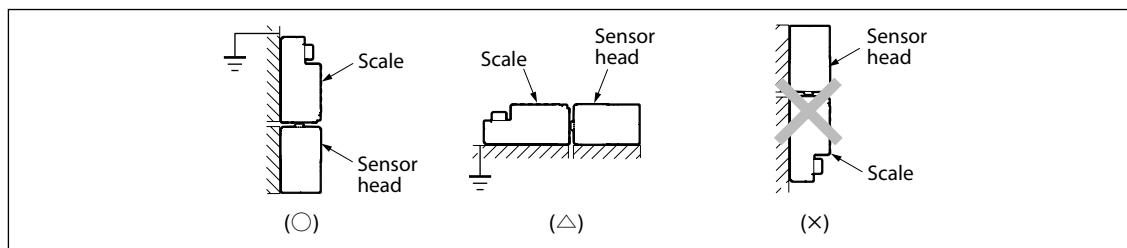

Fig. 3-1
- The sensor head will be damaged if the sensor head is moved outside the effective length (L) after installation. The sensor head must always be moved within the effective length.
- If the upper side is not available, set it to face horizontally. (Fig. 3-1)